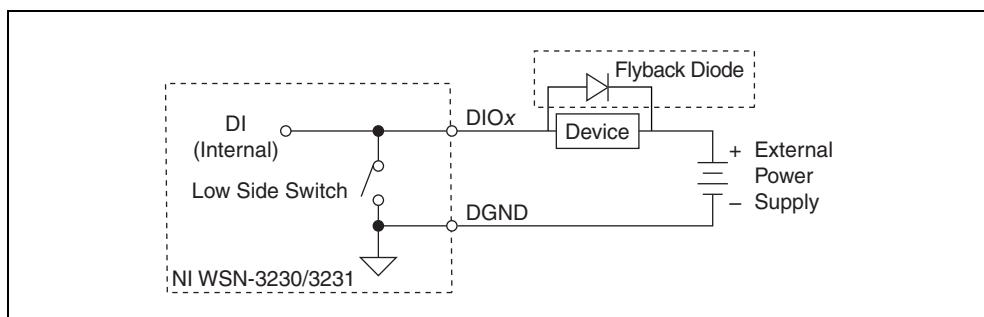

Figure 20. Connecting a Device to the NI WSN-3230/3231 in Drive Low (Sinking) Mode
- The channel is high impedance when the channel is turned off (1).
- When driving inductive loads, use an external flyback diode or snubber circuit as shown in Figure 20.